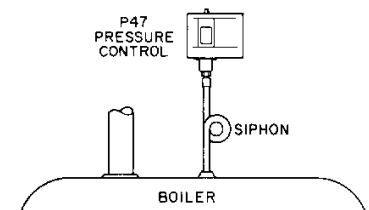

Fig. 2 — Typical mounting arrangement.
3. The P47 control must be mounted to a tap separate from the pressure gauge or other devices. Refer to Fig. 2 for typical P47 mounting.